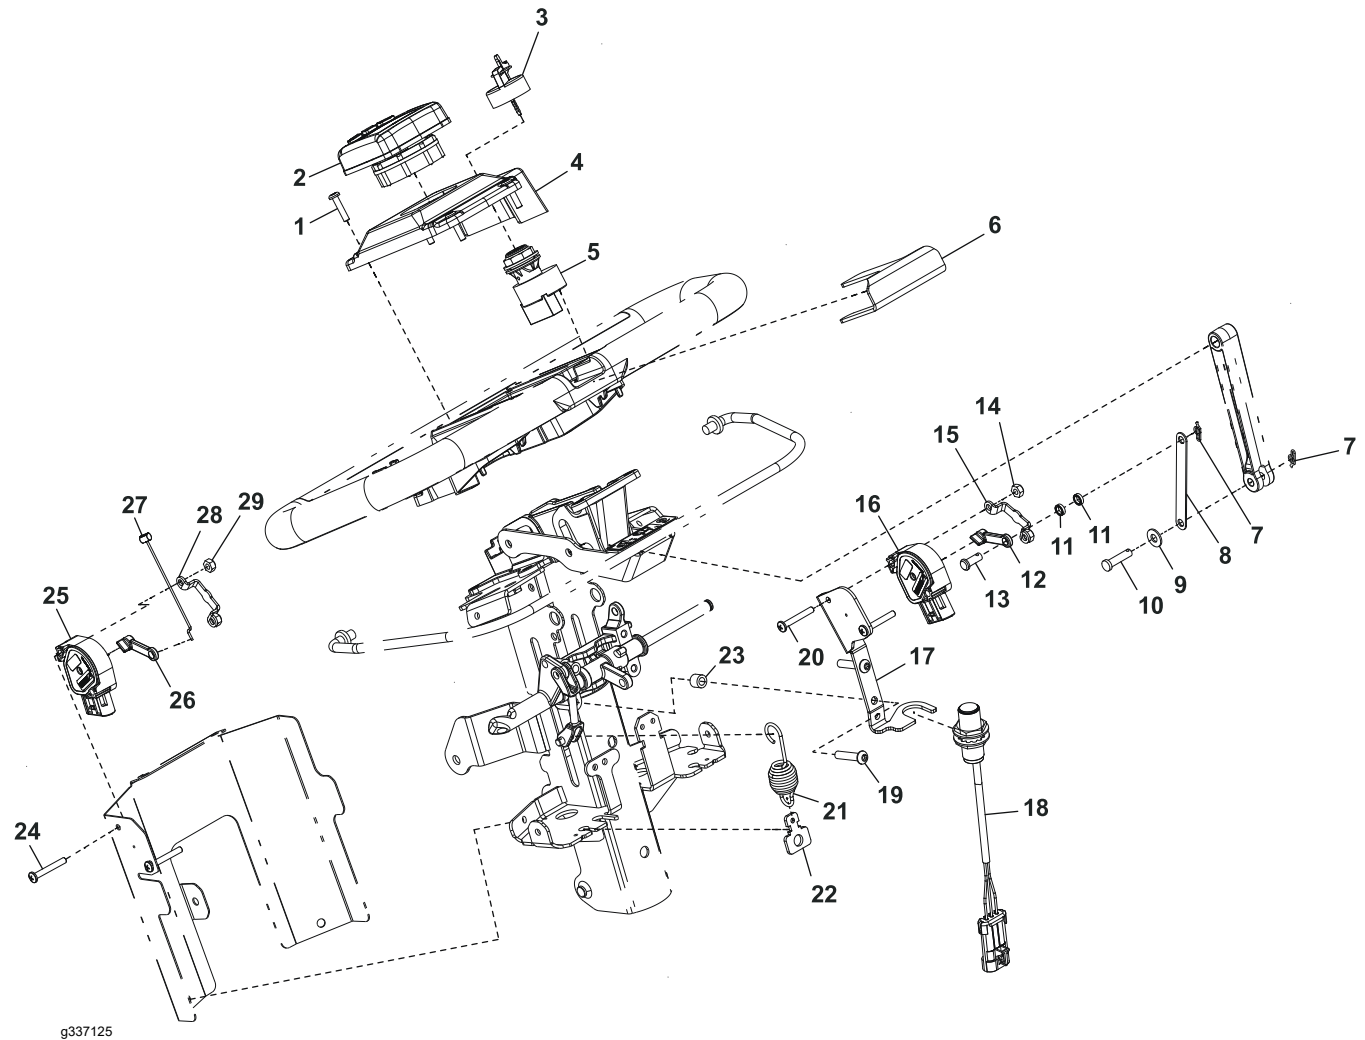

Figure 59
The throttle and clutch bail potentiometers controls the electric motor speed which determines the traction speed. The TEC uses the potentiometers setting as an input to determine the necessary signal output for the motor controller for correct electric motor speed. The throttle potentiometer is attached to the bottom handle cover and clutch bail potentiometer is attached to the upper receiver weldment; refer to (Figure 59).
4. Disconnect the machine wire harness connector from the potentiometer to be tested, and remove the potentiometer from the machine (Figure 59).
6. After you complete the testing, secure the potentiometers to the machine (Figure 59). Secure the wire harness connector to the potentiometer. Secure the handle cover to the handle.